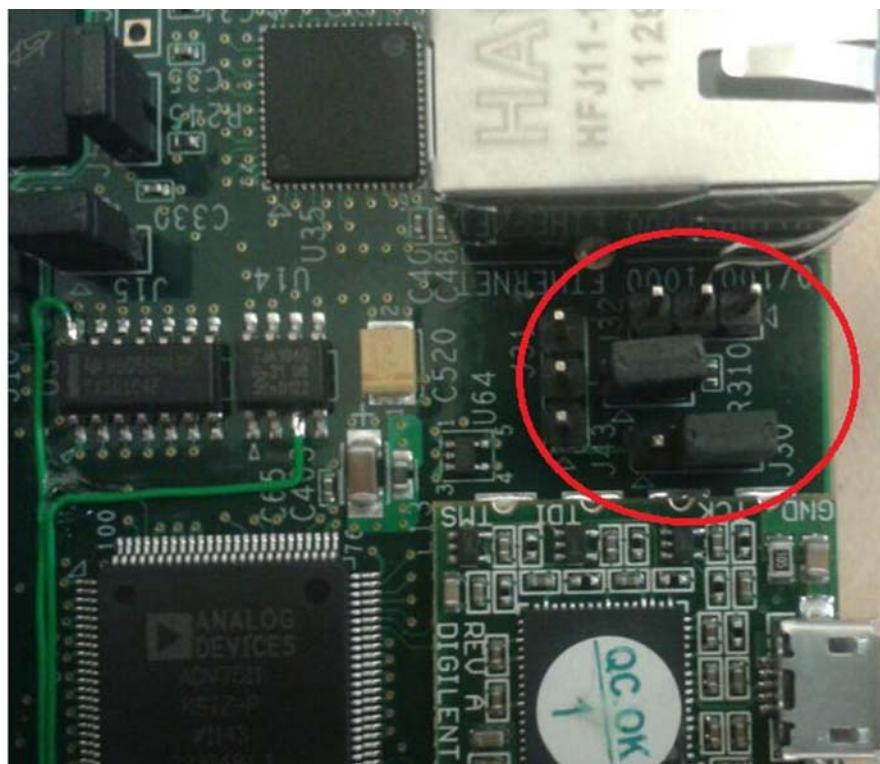

Figure 5-9: Change Jumpers J30 and J43
4. Change Ethernet Jumper J30 and J43 as shown in Figure 5-9.